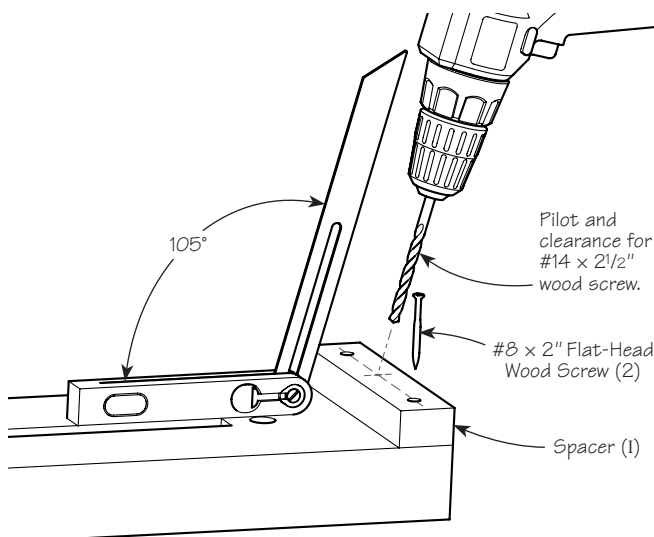

Figure 5: Drill for spacer and platform.
12. Make and install the spacer. Cut the spacer (I) to the size shown on **Drawing I**. It should be a bit longer than the width of the plank at the narrow end as measured to make the treadle frame. Install with two #8 \times 2" flat-head wood screws. Trim the ends flush with the plank.
13. Drill for the platform screw. In the middle of the spacer, drill as required to install a #14 wood screw, $2\frac{1}{4}$ " deep. As shown in **Figure 5**, the screw should be angled 105° . Ensure it is vertical when viewed from the front.